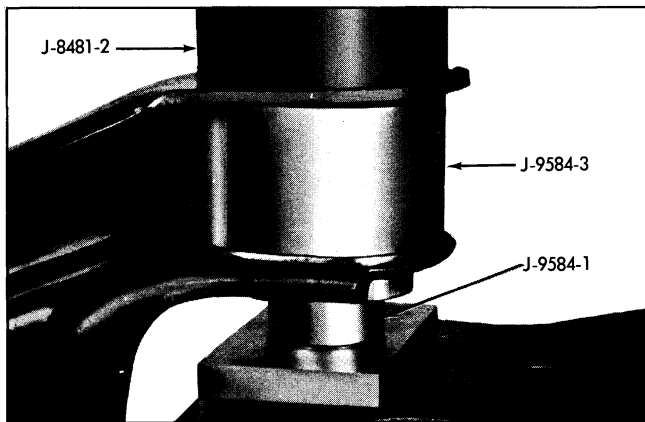

Fig. 3-25 Removing Bushing from Control Arm
2. Rest arm on remover J-9584-1 as shown in Fig. 3-25. Place spacer J-9584-3 around bushing, then with sleeve J-8481-2 between control arm and arbor, press bushing from arm.